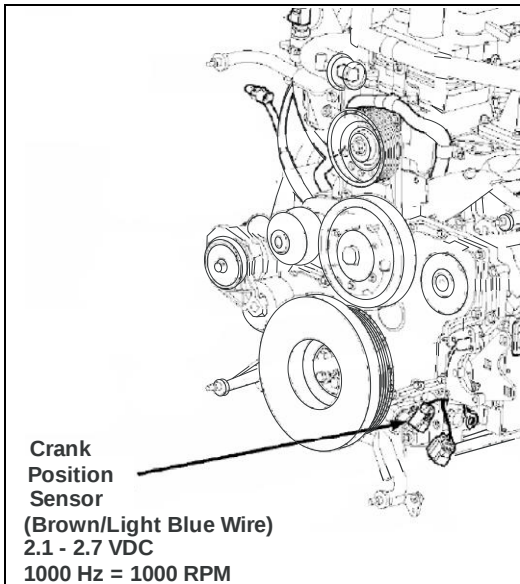

Figure 5.1 – Crank Position Sensor Location
- ☐ Locate the crank position sensor on the front of the engine (bottom on the driver side). (Figure 5.1).